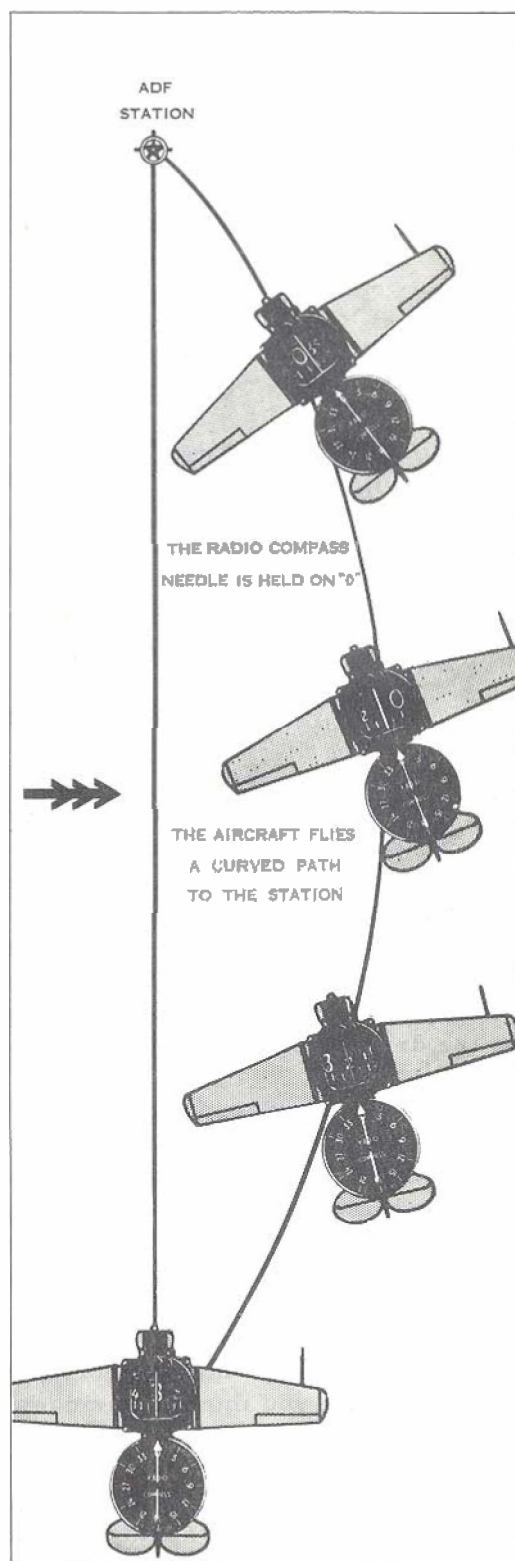

Figure 1: The ADF Homing
(1) A Radio Compass is installed in the aircraft, and the best method of homing to a known facility is by using the Automatic Direction Finding (ADF) equipment. The procedure is to:
- (c) turn the aircraft towards the facility until the radio-compass needle reads "0", (Figure 1 opposite);
(2) If the aircraft passes to one side of the facility instead of directly overhead, "Station Passage" is indicated by the radio-compass needle passing through either wing tip, depending on the position of the facility in relation to the aircraft. For example if the facility is on the right, the radio-compass needle will swing through "090°".